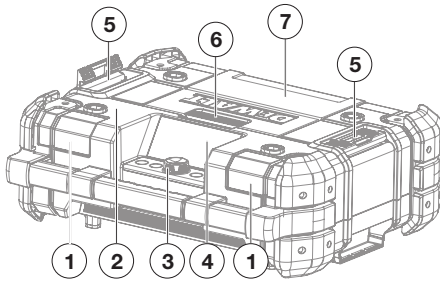
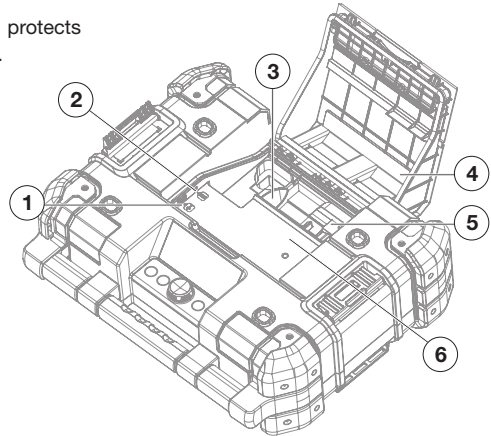

Figure 1. Front View
Figure 3. Storage Compartment
1. Open the compartment to take out the AC/DC power adaptor (see Figure 1 and Figure 3).